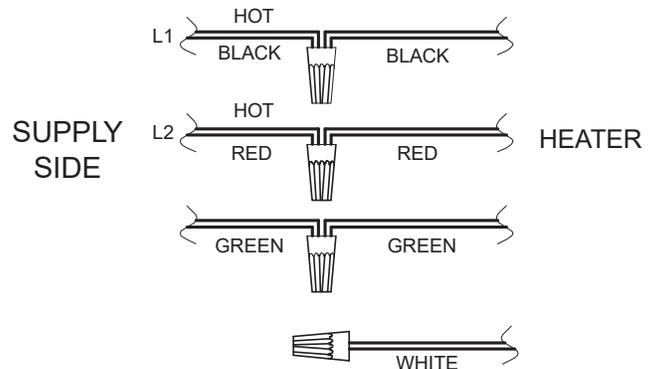

Figure 19. 240V Wire Connection
8. Install a wire nut on the white transformer wire. See **Figure 19**.